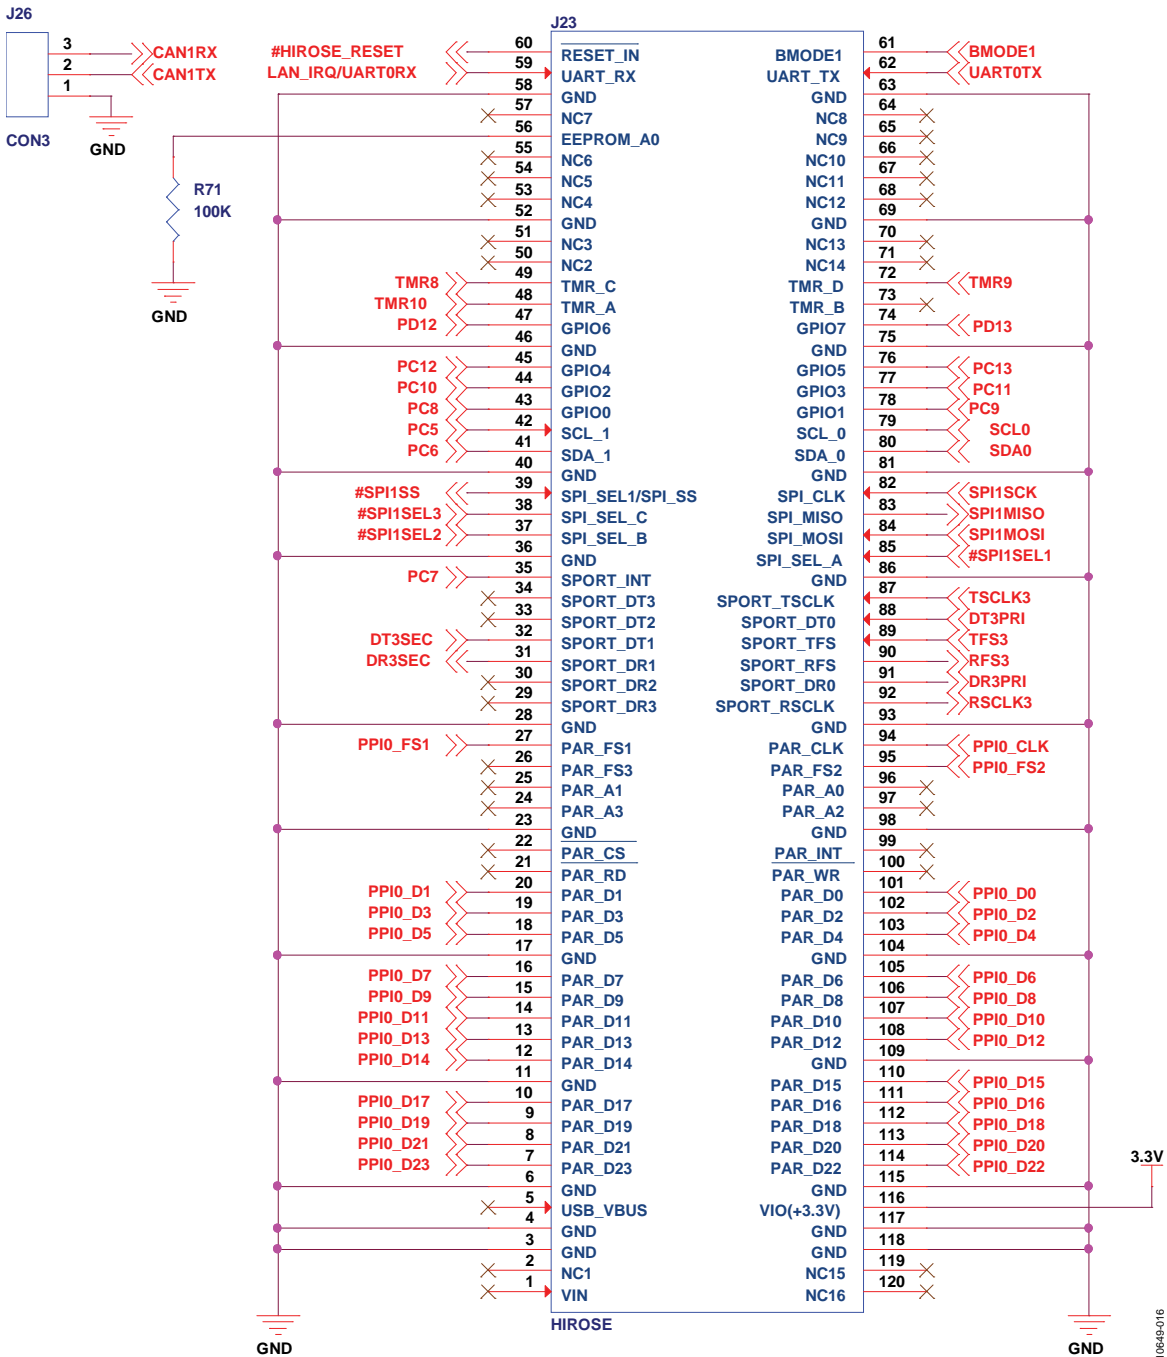

Figure 16. Extender Connector Using Hirose FX8-120P-SV(91)
The Hirose FX8-120P-SV(91) extender connector is used for daughter board connections. This allows additional functionality to be added to the ezLINX hardware. Figure 16